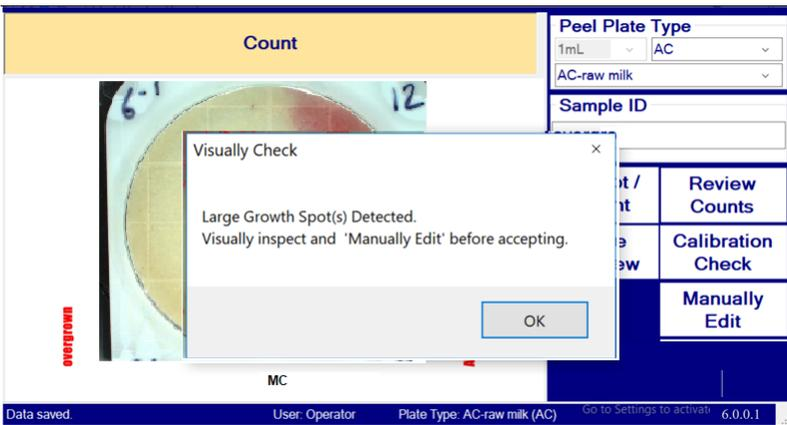

Figure 18
- Large Growth Spots are caused by spreader organisms, or overgrown plates with colonies merging together. This triggers an alert to visually inspect, and to manually edit the plate count. (Figure 18).